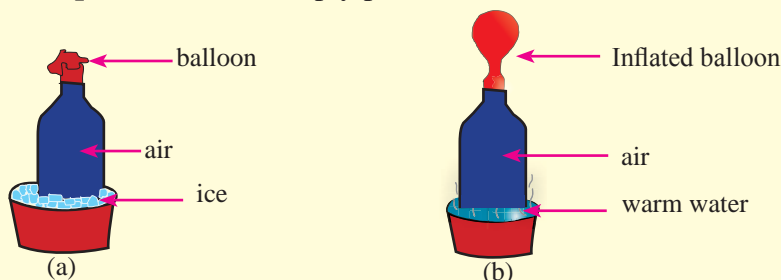

Figure 9.23 - Illustration of expansion of gases
- Then attach a balloon to the opening as shown in Figure 9.23(a).
- Next place the bottle in another empty vessel and pour hot water into the vessel as shown in Figure 9.23(b).